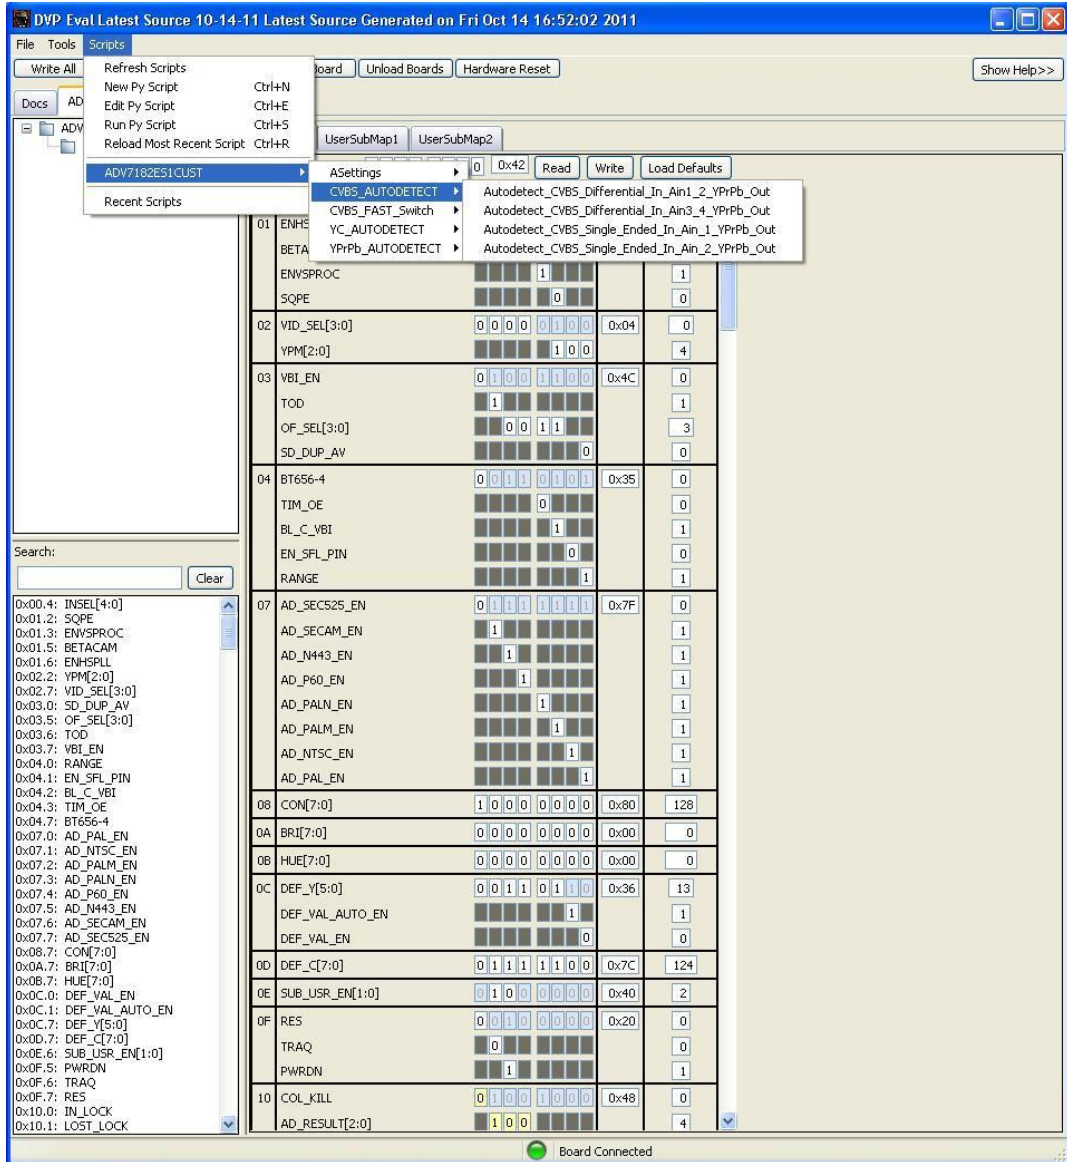

Figure 7. Running ADV7182 Script on DVP Eval Program
7. Select Scripts-> ADV7182CUST to select the script you wish to run (refer to Figure 7).